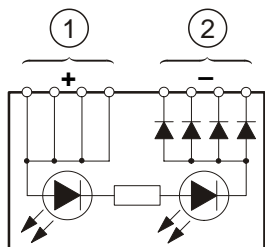

Fig. 6
4. Connect up as described under connection diagram (Fig. 6).
Legend (Fig. 6)
4. Anschluss gemäss Anschlussschema (Fig. 6).
Legende (Fig. 6)
4. Raccorder selon schéma de raccordement (Fig. 6).